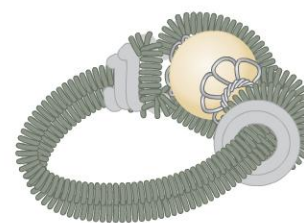

figure 6
- 12 Trim both wire tails. If the edges are sharp, file them smooth, then use nylon-jaw pliers to gently squeeze the wire ends tight (Figure 6).